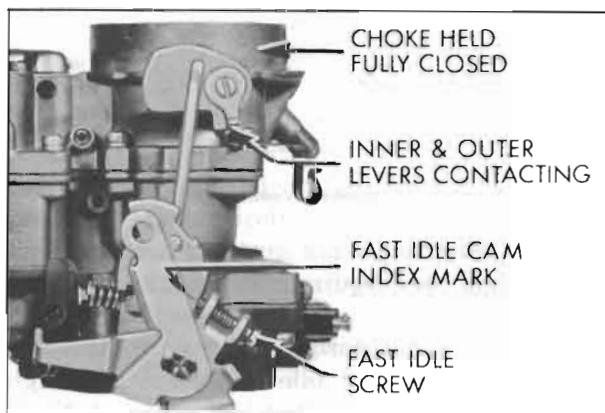

Figure 3-26—Checking Fast Idle Cam Position
1. Remove air cleaner. Open throttle to clear fast idle cam and close choke valve. With choke valve held fully closed and inner and outer choke levers in contact, index mark on fast idle cam must align with center of fast idle screw. See figure 3-26.